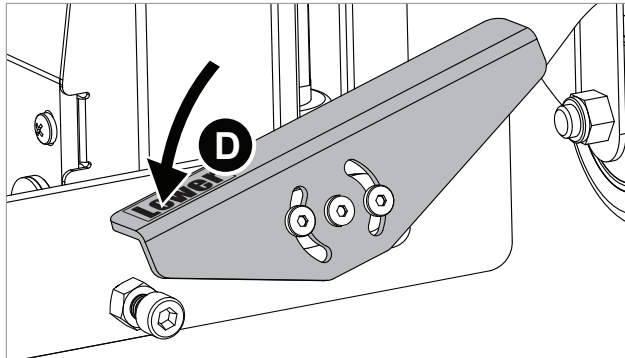
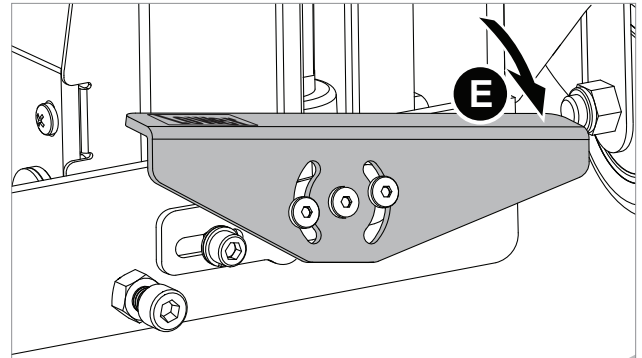

Fig. 5
Fig. 6
- To decrease the speed at which the saw lowers, rotate the release lever (**D**) counter-clockwise a small amount (see Fig. 5). To increase the speed at which the saw lowers, rotate the release lever (**E**) clockwise a small amount (see Fig. 6).